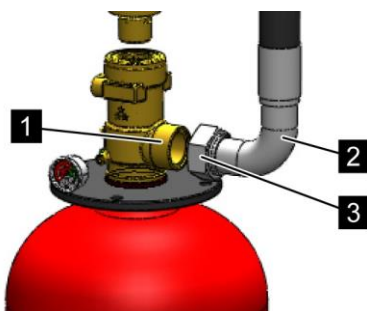

Fig. 138: Remove the hose
4. ➤ Unscrew the cap nut (Fig. 138/3) of the hose (Fig. 138/2) or connecting piece (for the version without hose) from the valve outlet (Fig. 138/1).
5. ➤ Attach the anti-recoil cap on the valve outlet (Fig. 138/1).